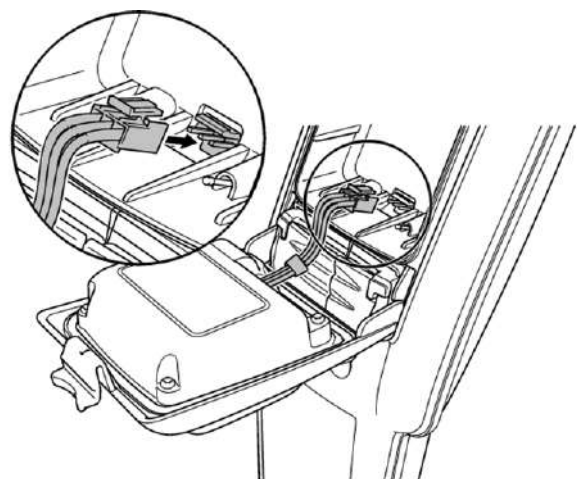

Figure 4.2 Connecting the Li Ion lead
- 1 To connect the Li-Ion battery pack un-plug the lead connector (see figure 4.2)